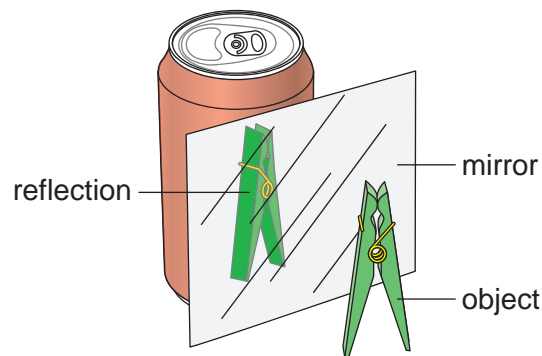

Figure 2
- a plane mirror attached to a full soft drink can with double-sided tape (see Figure 2)